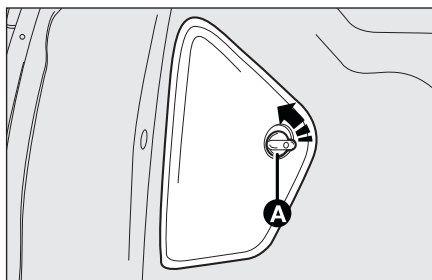
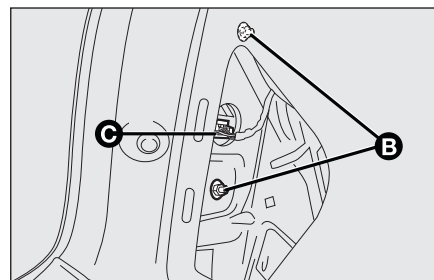

fig. 27
fig. 28
- ☐ turn the fastening device **A**-fig. 27 anticlockwise (left flap) or clockwise (right flap) and remove the cover;
- ☐ disconnect the electric connector **C**-fig. 28;
- ☐ insert the bulb holder, making sure that the two tabs are correctly fastened; insert the light cluster inside the housing and connect the electric connector **C**-fig. 28; fasten the two nuts **B**; fasten the cover making sure that the tabs are inserted in the seat and turn the fastening device **A**-fig. 27 anticlockwise (left flap) or clockwise (right flap) to secure it.